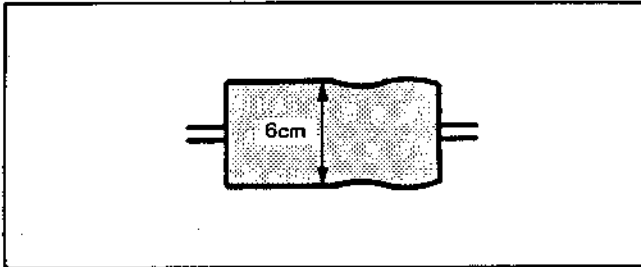

Fig. 4-3
- 6) Adjust oscilloscope V GAIN so that the RF output waveform center portion is 6cm on the oscilloscope. (Fig. 4-3)